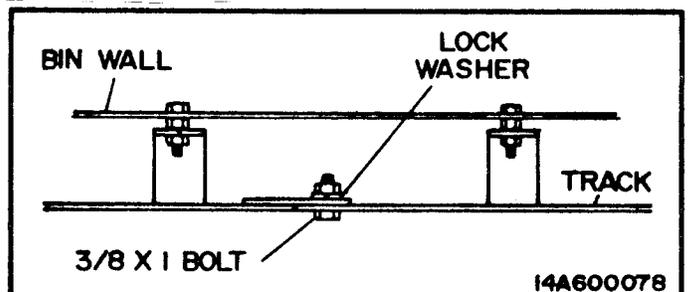

FIG. 3 - TRACK SPLICE.
4. Join sections together with 3/8" x 1" bolt, lock washer, and nut. Do not tighten at this time. **MAKE SURE THAT THESE BOLTS ARE MOUNTED POINTING OUTWARD TOWARD BIN WALL TO AVOID OBSTRUCTING CROSSTUBE.** Fig. 3.
2. Mount second segment of track in place. Join sections together with 3/8" x 1" bolt, lockwasher, and nut. Tighten at this time. **MAKE SURE THAT THESE BOLTS ARE MOUNTED POINTING OUTWARD TOWARD BIN WALL TO AVOID OBSTRUCTING CROSSTUBE.** Fig. 3